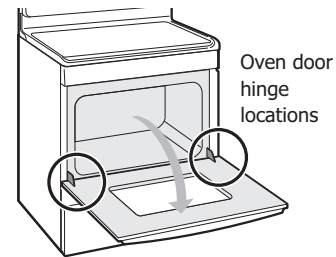

Figure 32: Door hinge location
1. Open oven door completely, horizontal with floor (See Figure 32).
3. Fully open the oven door, horizontal with floor (See Figure 32).